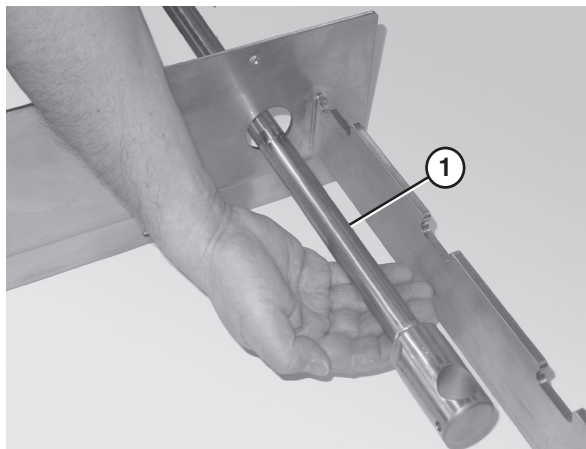

Figure 12
1. Slide the tip up shaft (**Figure 12, item 1**) through the designated slots in the frame.